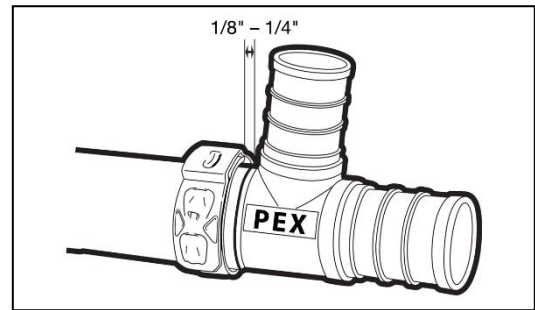

Fig. 3: Insert fitting and position clamp
1. Per ASTM F2098, insert fitting into tubing until shoulder or tube stop contacts end of tubing. Position clamp within 1/8" to 1/4" (3.2 to 6.4 mm) of tube end. **(Fig. 3)**